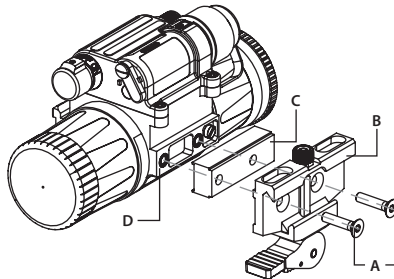

FIGURE 3-8. INSTALLING THE MOUNT WITH THE RISER
To replace the mount and riser from CO-MINI, do the following (refer to Figure 3-8). Using a 2.5mm Allen key, unscrew both of the M4x8 fixing screws (A) of the CO-MINI mount (B). Remove the QRM with riser (C) from the seating rail (D).